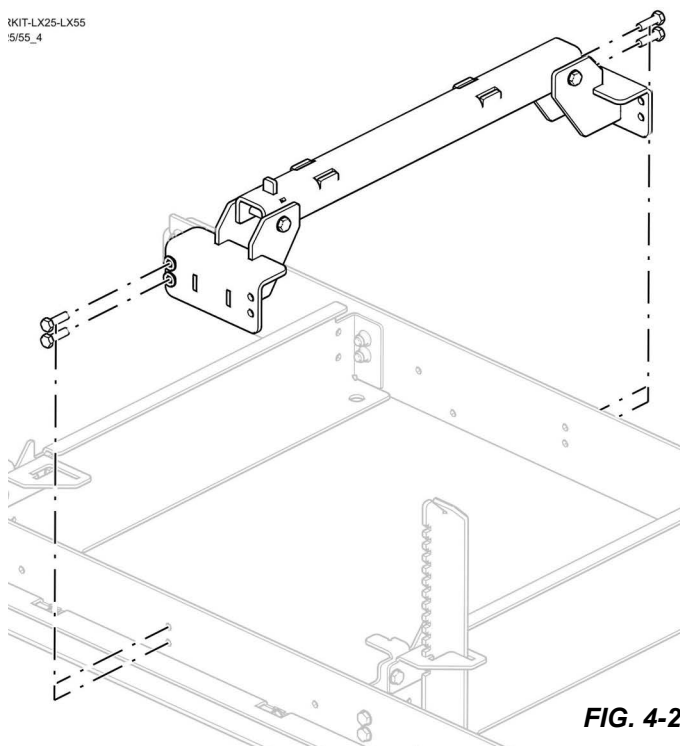

FIG. 4-2
4. Install the rear kit in the last bed section, as shown in Section FIG. 4-2.